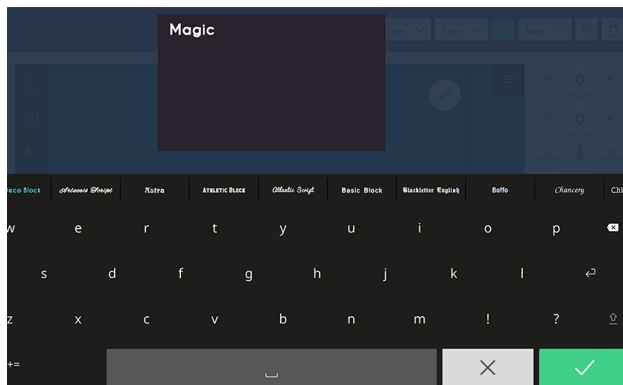

Fig. 27
2. Type in the word "Magic" (Fig. 27).